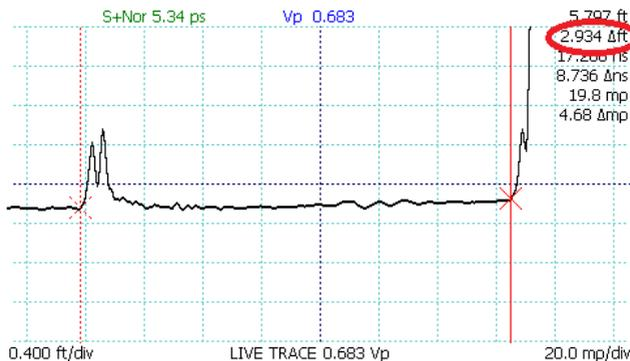

Figure 4.12. Relative distance measurement between two small impedance “faults” caused by BNC connectors.
4. The CT100B displays the distance measured between the two cursors as a “ Δ ” value below the absolute distance measurement. Figure 4.12 is a 3 ft. segment of 50 ohm cable marked by small impedance “faults” caused by BNC connectors on both ends.